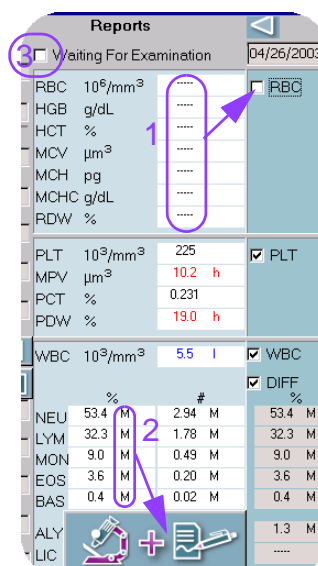

Fig. 4-42 Manual entry indicator and unvalid parameters
- 1- If a parameter group has been unselected (see Fig. 4-42, page 4-58), parameters are unvalidated and replaced by (---)
- 2- When a manual entry has been performed, a «M» is displayed next to the parameters (see Fig. 4-42, page 4-58). The «Expanded DIFF» key is displayed when a manual entry has been performed.